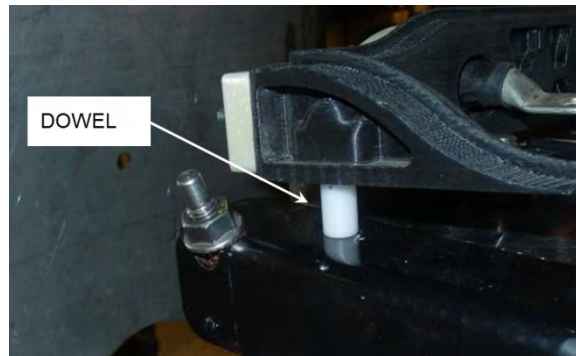

FIGURE 41: DOWEL ON ANGLE
5. Align the dowels on the angles with the holes on the cable guides (Figure 41).